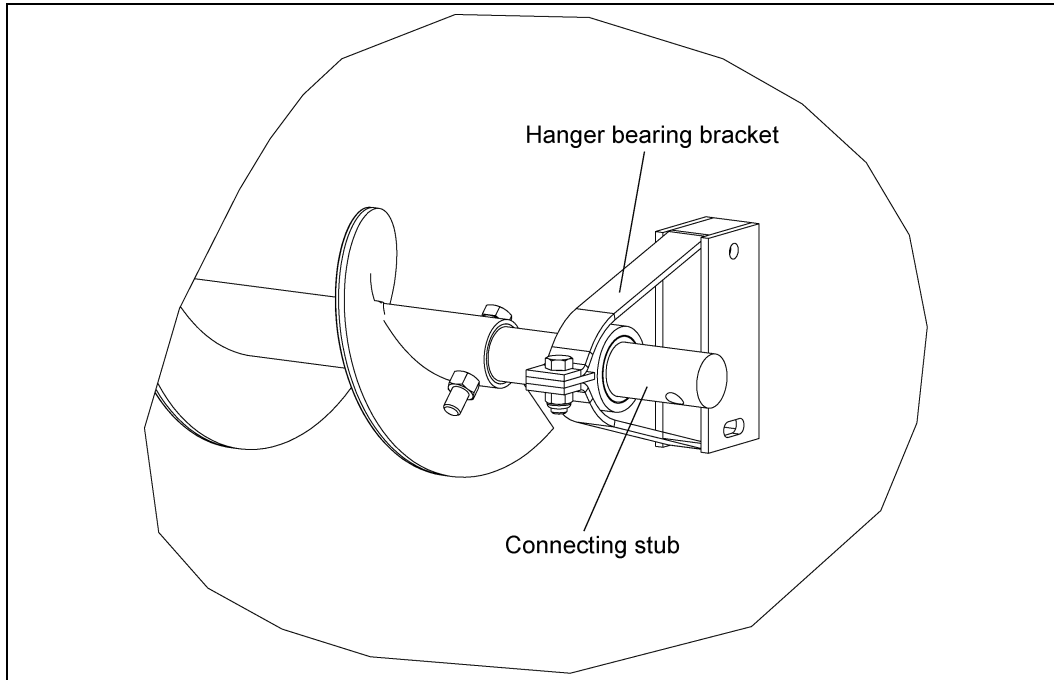

Figure 4AD
7. Install the next section of flighting onto the connecting stub. Secure the flighting with bolts (see note for bolt size on page 29) and stover nuts. (See Figure 4AE.)